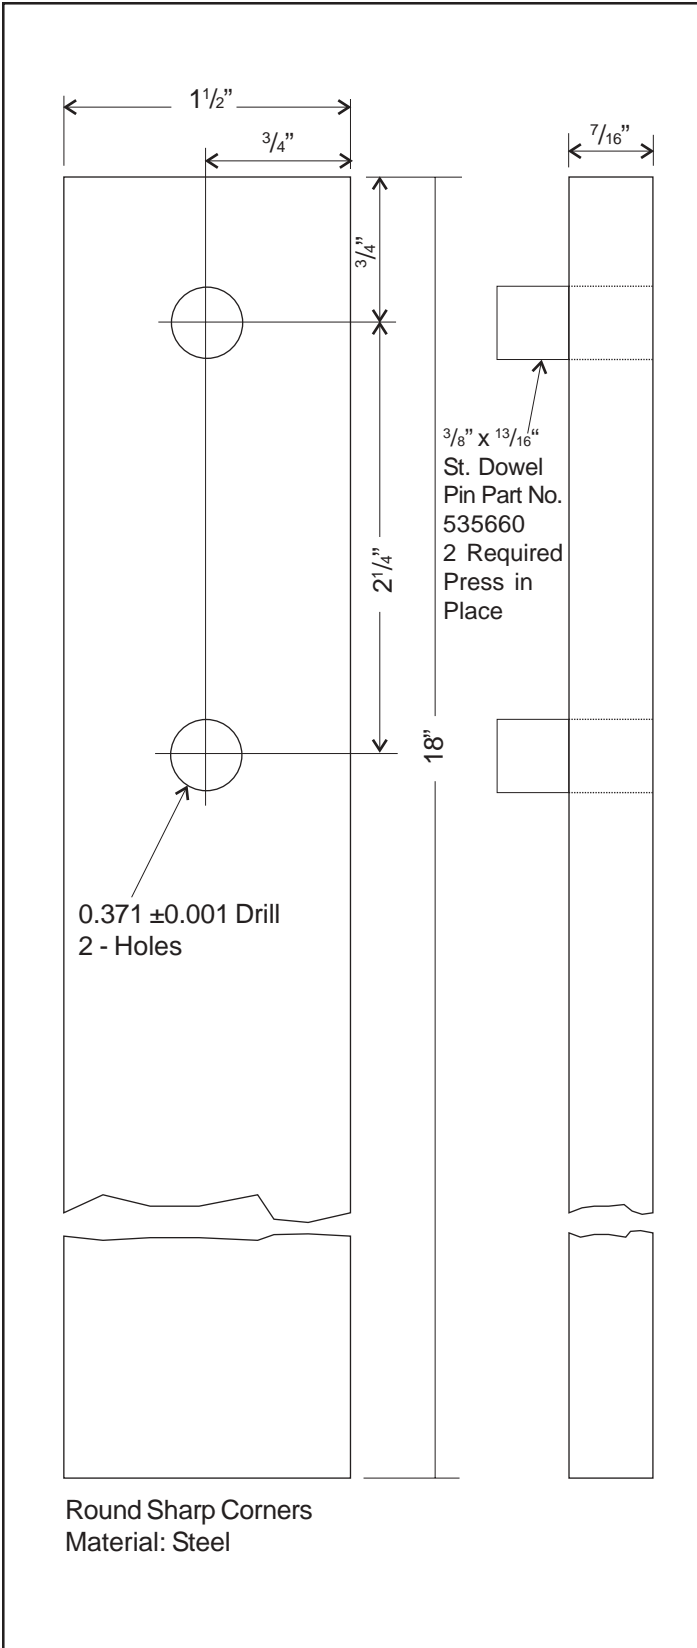

Figure 40 - Spanner Wrench for Lock Plug
- (a) Straighten lock ring, then use spanner wrench shown on Fig. 40 to remove lock plug and lock ring from piston.
- (b) Position lock ring on piston. Coat threads of lock plug with sealant (Mobil Jointite pipe joint compound or equivalent) and insert lock plug into piston. Use spanner wrench, shown on Fig. 40, to tighten lock plug to an equivalent of 80 to 110 ft. lbs. torque. Crimp lock ring into notch in piston and at either one of two notches in locking plug.
- (b) Position lock ring on piston. Coat threads of lock plug with sealant (Mobil jointite pipe joint compound or equivalent) and insert lock plug into piston. Use spanner wrench, shown on Fig. 40, to tighten lock plug to an equivalent of 80 to 110 ft. lbs. torque. Crimp lock ring into notch in piston and at either one of two notches in locking plug.